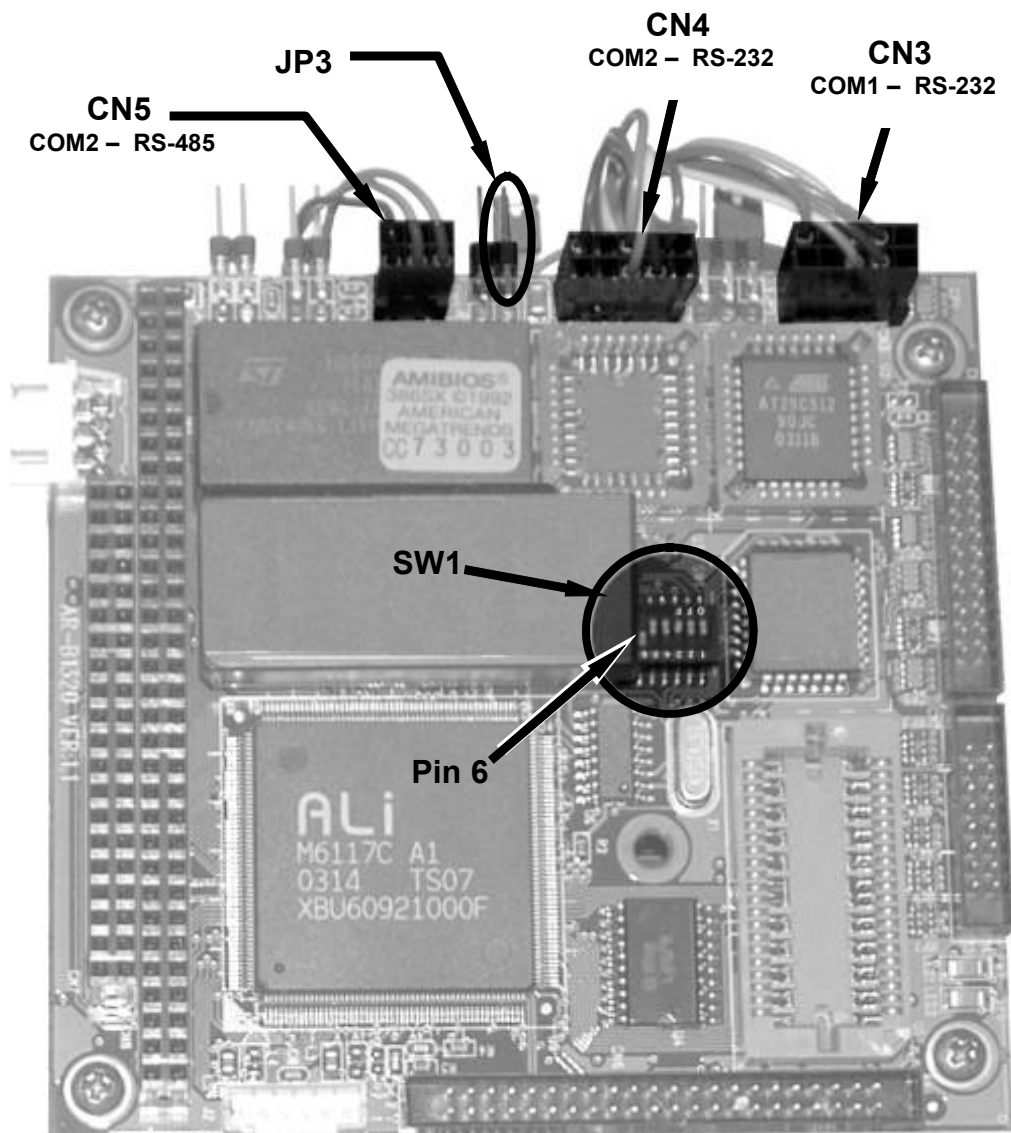

Figure 6-8: CPU card Locations of RS-232/485 Switches, Connectors and Jumpers
- To reconfigure COM2 as an RS-485 port set switch 6 of SW1 to the ON position (see Figure 6-8).
- The RS-485 port can be configured with or without a 150 Ω termination resistor. To include the resistor, install jumper at position JP3 on the CPU board (see Figure 6-8). To configure COM2 as an un-terminated RS-485 port leave JP3 open.